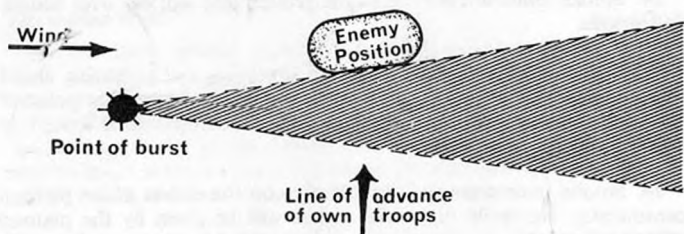

Fig 9.—Use of smoke in a cross wind
79. **Cross winds** (*see* Fig 9). The bombs should fall up wind of the target and slightly in front of it. The distance up wind will depend upon the wind's strength. As soon as the firer has found his correct point of burst he should fire another bomb immediately to obtain the necessary density. Thereafter he must feed the screen by observation, taking into account:—